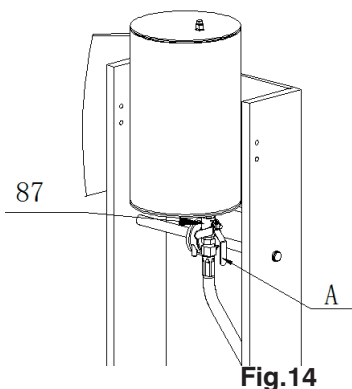

Fig.14
1. Open the Valve (87) by turning it anticlockwise to position A. (Refer to Fig.14)